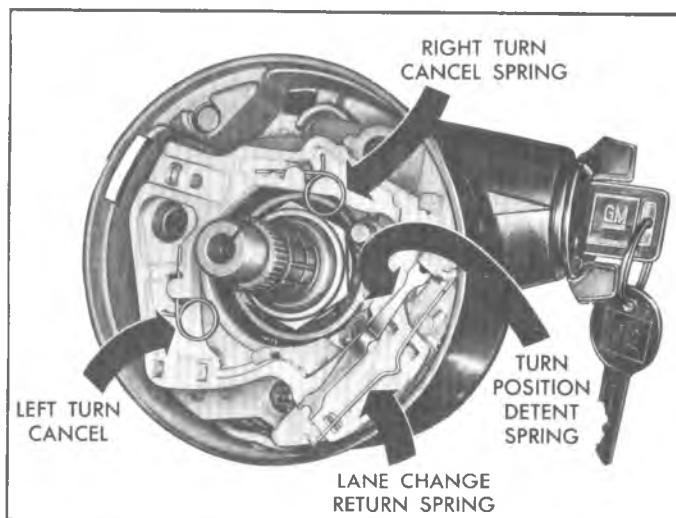

Fig. 121—Checking Turn Signal Switch Visually
1. With the upper part of the column disassembled so that the signal switch is visible (Figure 121) check for missing springs. Replace any spring that is missing, inspecting the molded pins which secure them. If these pins are broken, the switch must be replaced.
2. Check the position of the switch in the bowl. If it appears cocked or crooked, loosen the securing screws (3) and visually inspect the switch. If any of the plastic is broken or badly deformed, the switch must be replaced.